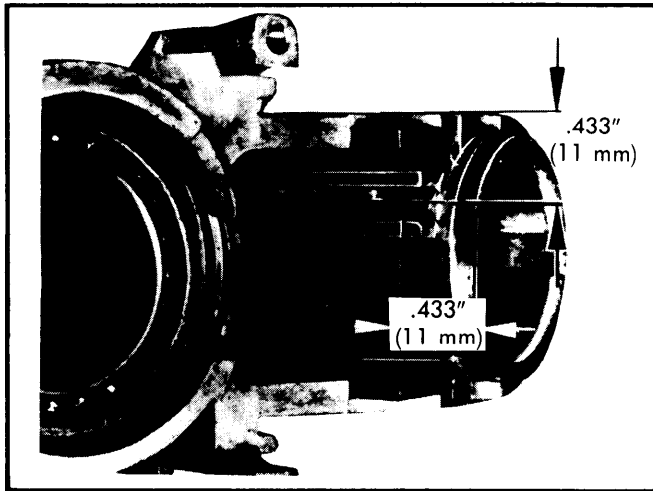

Fig. 3 Measurements for Drilling into Steering Lock Cylinder - Type 1 Only
2) Disconnect wiring harness from switch. If no hole is present in lock mechanism housing, one must be drilled. Refer to Fig. 3.
Removal (Except Type 1) - 1) It is necessary to drill into cylinder lock to gain access to cylinder release pin. Refer to Fig. 3 to determine where $\frac{1}{8}$ " hole must be drilled.